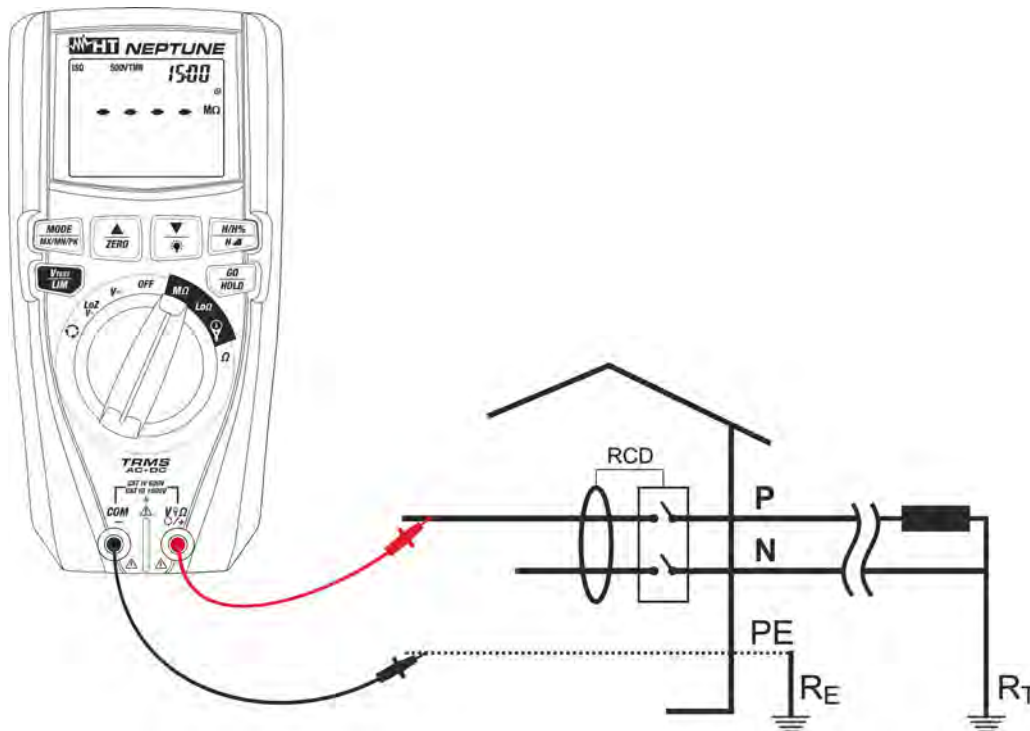

Fig. 19: Use of the instrument for insulation resistance measurement in TMR mode
6. Insert the red lead into input terminal **V Ω +** and the black lead into input terminal **COM/-** and possible alligator clips, and connect the instrument to the system to be tested (see Fig. 19).